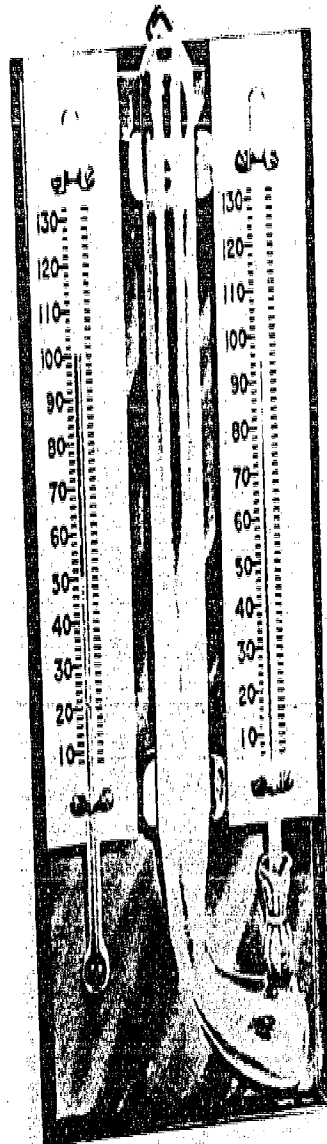

Figure 48. Dry-bulb and wet-bulb thermometer.
d. *Dry-Bulb and Wet-Bulb Thermometers.* The dry- and wet-bulb thermometers (fig. 48) are used to measure the temperature and humidity of the fermentation room and the proofbox. The thermometers, two identical glass tubes, are mounted a few inches apart on a common base. The wet bulb has one end of a cloth wick tied around the bulb with the other end extending down where it is immersed in a tube of distilled water. The principle on which this thermometer operates to show the relative humidity of the atmosphere is based on the fact that when water or any other liquid evaporates it has a cooling effect, and the faster evaporation takes place, the greater the cooling effect. This point may be illustrated by wetting the hand with alcohol. Alcohol evaporates quickly, thereby producing a cooling effect or sensation. Because of the cooling effect of the evaporation of the water, the wet-bulb thermometer will ordinarily read lower than the dry-bulb thermometer. The difference in the readings of the two thermometers at any one time depends upon the rate of the evaporation of the water surrounding the wick of the wet-bulb thermometer. Water evaporates faster in dry air than it does in humid air. Therefore, the drier the atmosphere, the faster the water will evaporate from the wick of the wet-bulb thermometer causing a greater cooling effect. This cooling effect causes the difference between the readings on the dry bulb and the wet bulb. However, if the atmosphere is very humid, evaporation will take place slower, causing a lower cooling effect and allowing for the slight difference between the two thermometer readings. If the air is saturated with moisture, the two thermometers will read the same and the relative humidity will be 100 percent. (For method of reading the percent of relative humidity, refer to paragraph 99d.)